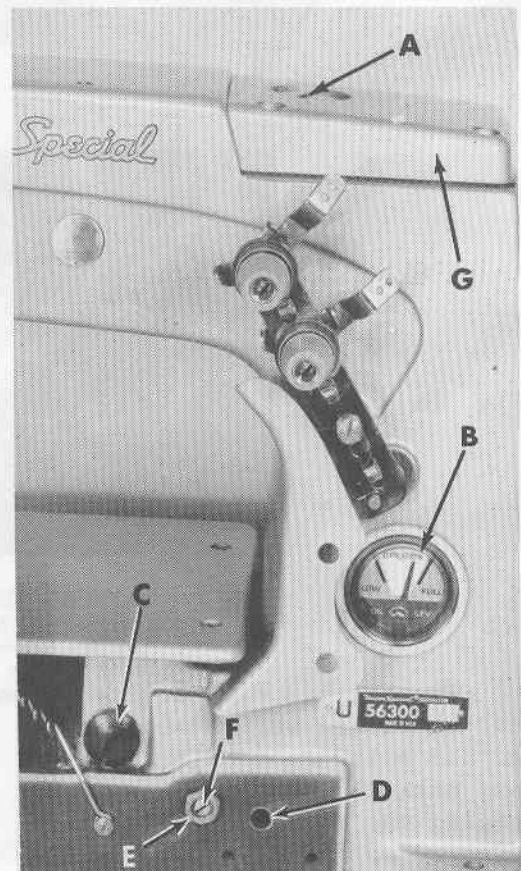
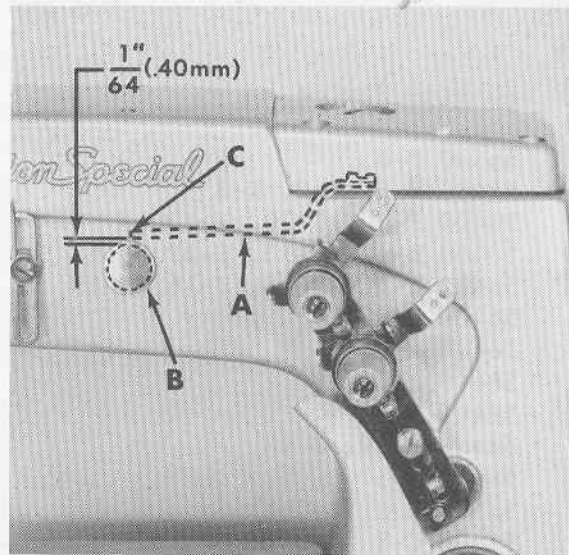

Fig. 2
Fig. 3
Use a straight mineral oil of a Saybolt viscosity of 90 to 125 seconds at 100° Fahrenheit in the main reservoir. This is equivalent to UNION SPECIAL specification No. 175. Fill main reservoir at plug screw in upper crank chamber cover (A, Fig. 2) and check oil level at gauge (B). Oil is at maximum safe operating level when needle is to the black line, located to the right of "OPERATE" zone, marked "FULL". Oil should be added when needle is to the black line, located to the left of "OPERATE" zone, marked "LOW". Recommended grease No. 28604 P (See Paragraph under "Changing Stitch Length").
For machines in operation check the oil for and lint deposits at reasonable intervals. If dirty, change the oil. An oil change is recommended every 2000 operating hours. Oil may be drained from main reservoir by removing plug screw (C, Fig. 2) located below the cloth plate at front of the machine, or by removing the lower crank chamber cover, located at the back of machine.
2. Remove the oil reservoir plug screw (C, Fig. 2) and tip machine forward to drain oil from the reservoir.
5. Fill main reservoir to a level even with the bottom contour of the knee press shaft bushing (D, Fig. 2).
6. Loosen lock nut (E) on calibrating screw (F), and turn the screw to the left or right until the gauge needle rests on the black line, located to the left of "OPERATE" zone, marked "LOW".
7. Tighten lock nut (E) and replace plug screw (C) and lower crank chamber cover.
Remove the head cover and upper crank chamber cover (G, Fig. 2). Check position of needle lever bearing oiler (A, Fig. 3) located inside the arm casting, below the upper crank chamber cover, which lubricates the needle lever stud (B). Make sure it is tilted downwardly and that its delivery end (C) contacts the inside wall of the bed casting at the back, just above the notch of the needle lever shaft stop collar. (Do not allow the oiler to rest on the needle lever). Allow 1/64 inch (.40mm) clearance as in Figure 3.